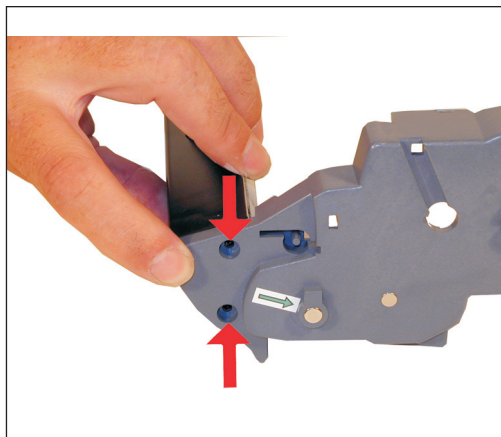

Figure 20
17) Install the waste chamber into the right end cap. Install the 2 screws. See Figure 20